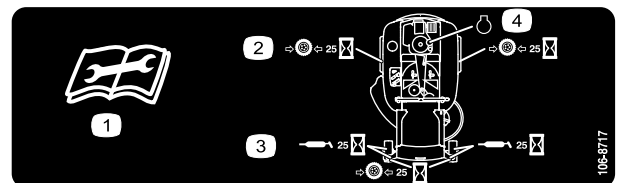

Figure 31
3. Clean the grease fittings (Figure 30 and Figure 31) with a rag. Make sure to scrape any paint off of the front of the fitting(s).